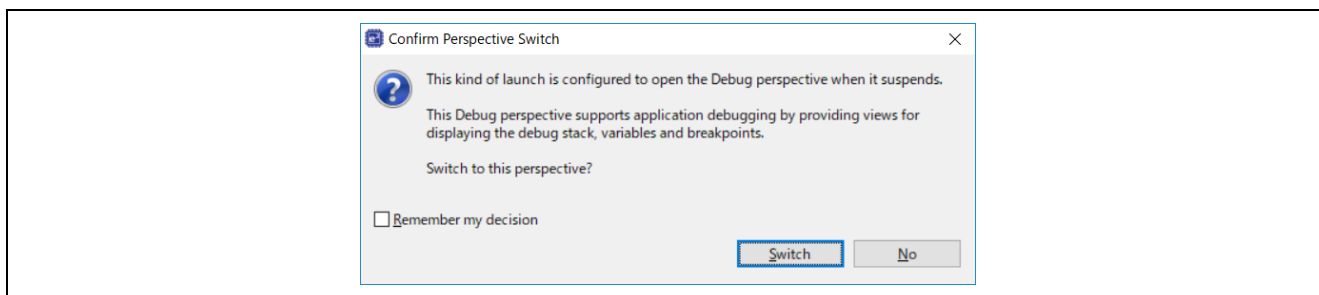

Figure 4-7. Confirm Perspective Switch window
- When Debug Perspective is opened, Program Counter (PC) should be located at the top of Warm_Reset_S function. Then, you need to press the button indicated by a red arrow in Figure 4-7.